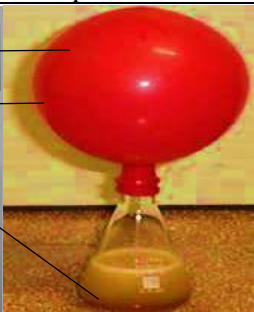

Fig.1.12(b) Fermentation of glucose solution
1. Arrange the setup of the apparatus as shown in fig 1.12(b)
4. Record the observation after three (3) days.